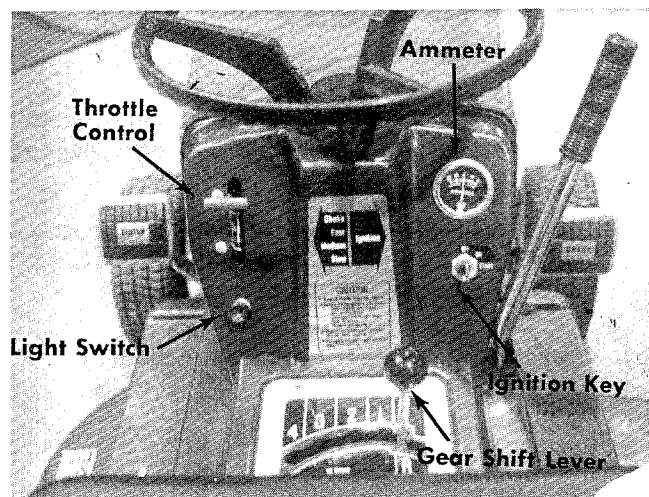

FIGURE 7. CONTROLS
- a. **Throttle Control.** The throttle control is used to regulate the engine speed and choke the engine. The engine should be operated from $\frac{3}{4}$ to full throttle when operating the cutting deck or snow thrower (optional). See figure 7.
- b. **Gear Shift Lever.** The gear shift lever is used to shift into one of three FORWARD GEARS, NEUTRAL or REVERSE. See figures 7 and 8.
- g. **Ammeter.** The ammeter registers the rate of battery charge or discharge. The ammeter should register on the plus side (+) when the engine is running in the fast position until the battery is completely charged. With a fully charged battery or with the engine idling the ammeter will not show a charge. See figure 7.
- h. **Light Switch.** Pull the light switch out to turn on the lights. The lights will only operate when the engine is running. See figure 7.
Electric Start. See figure 7. Turn the key to the START position to start the engine. When the engine is running, let the key return to the ON position. To stop the engine, turn the key to the left to the OFF position and remove it to prevent accidental starting.
Step 4. Set the throttle control in the CHOKE position. See figure 7.